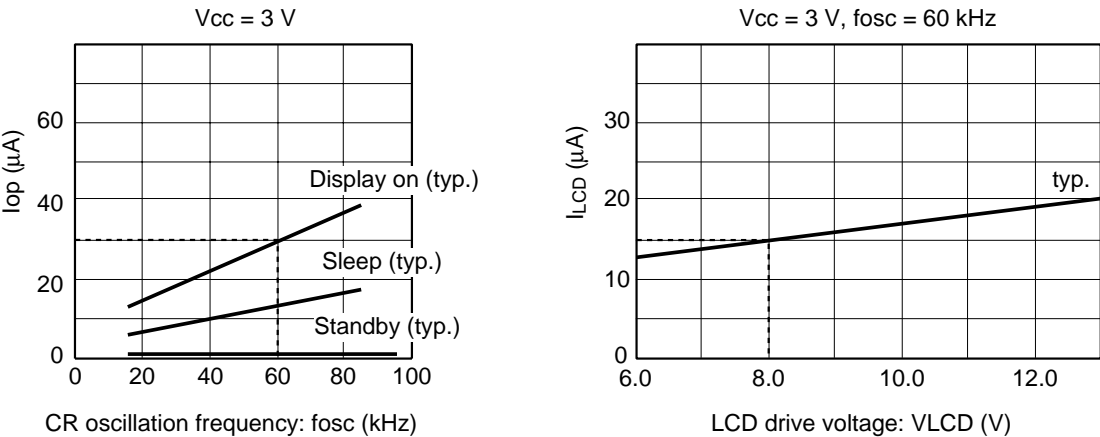

Figure 66 Relationship between the Operation Frequency and Current Consumption
- 11. The following shows the relationship between the operation frequency (fosc) and current consumption (Icc) (figure 66).